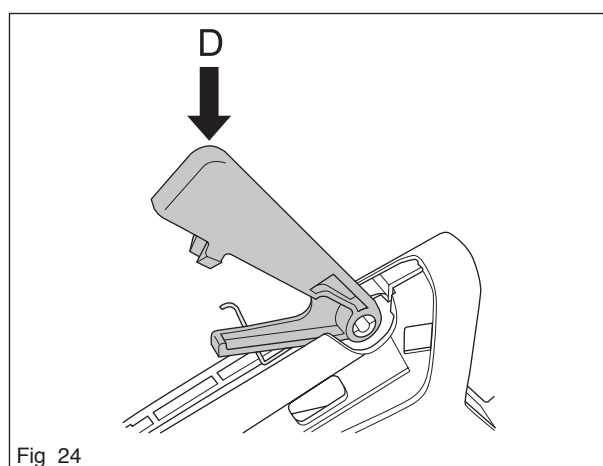

Fig 24
Fit the throttle lock (D) by pressing it onto the shaft in the handle (see figure 24).